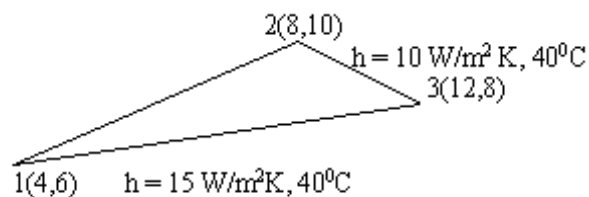

Figure 6
6. Compute the elemental conductivity matrix and load vector for the 2-D triangular element as shown in figure6. The faces 1-3 and 2-3 are exposed to a convection and there is an internal heat generation of 50 W/cm^3 . Assume thermal conductivity is 60 W/m K . [16]